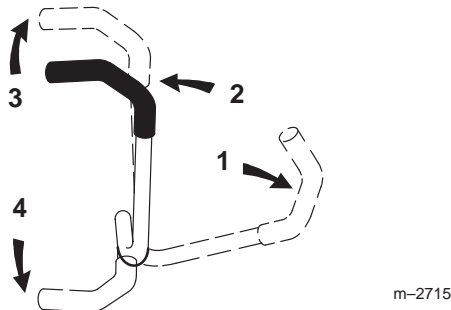

Figure 10
3. To go forward, slowly push the motion control levers forward (Fig. 10).
To go straight, apply equal pressure to both motion control levers (Fig. 10).
To turn, release pressure on the motion control lever toward the direction you want to turn (Fig. 10).
2. To go backward, slowly pull the motion control levers rearward (Fig. 10).
To turn, release the pressure on the motion control lever toward the direction you want to turn (Fig. 10).